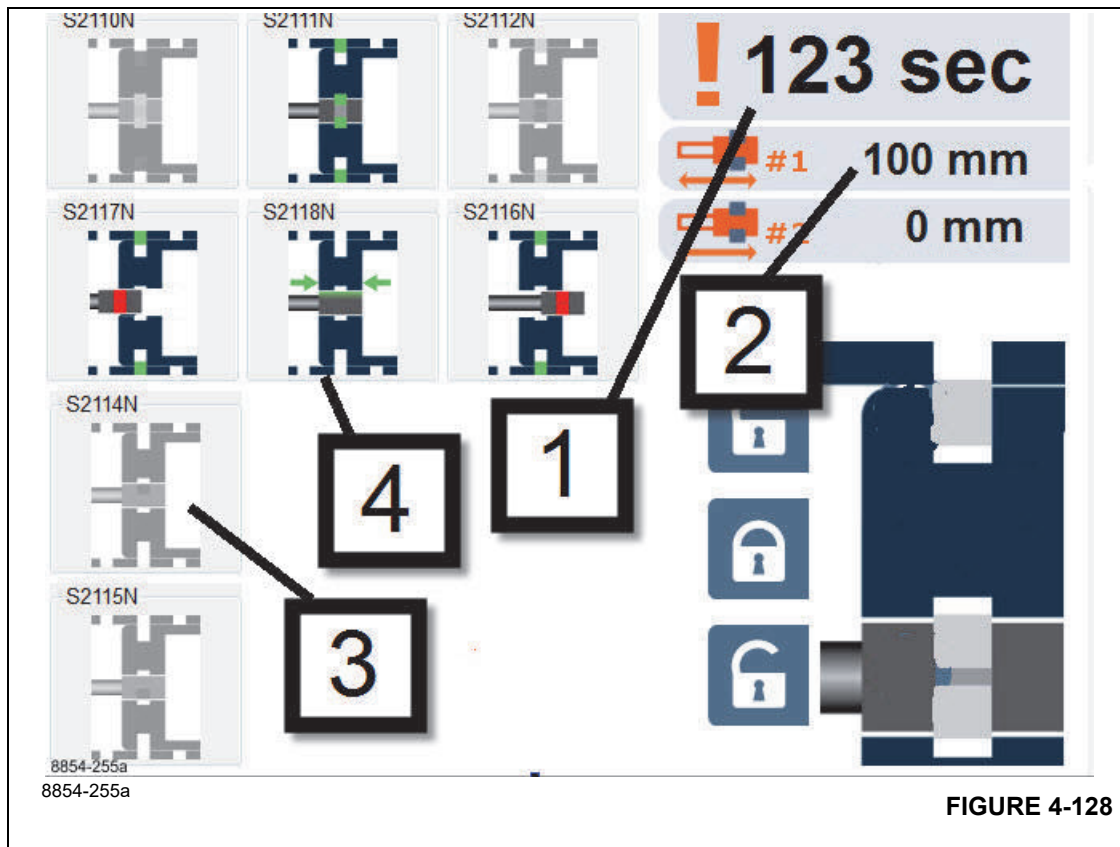

FIGURE 4-128
The emergency program has a time limit. The display (1, Figure 4-128) shows the remaining time for operating the emergency program.
If the display (2, Figure 4-128) shows an obviously unrealistic value, such as -1100 mm or -3.61 ft, then there is
In the display, items 3 and 4 Figure 4-128 are examples of indicators for proximity switches. Item 3 is switch S2114N, and it is shown in a dimmed fashion. This means the switch has been considered OFF. Item 4 is switch S2118N, and it is shown in active colors; this switch is considered ON.
- Retract the telescopic section slowly and as far as possible, refer to Table 4-1 for the expected value for the precision length sensor (Item 2 in Figure 4-128) when the boom sections are fully retracted.
You can now move the telescoping cylinder into the next telescopic section, refer to Table 4-3 for the expected value for the precision length sensor (Item 2 in Figure 4-128) when the tele cylinder is near a connection to a boom section
- The display (2, Figure 4-128) shows the length for the current locking point, refer to Table 4-3